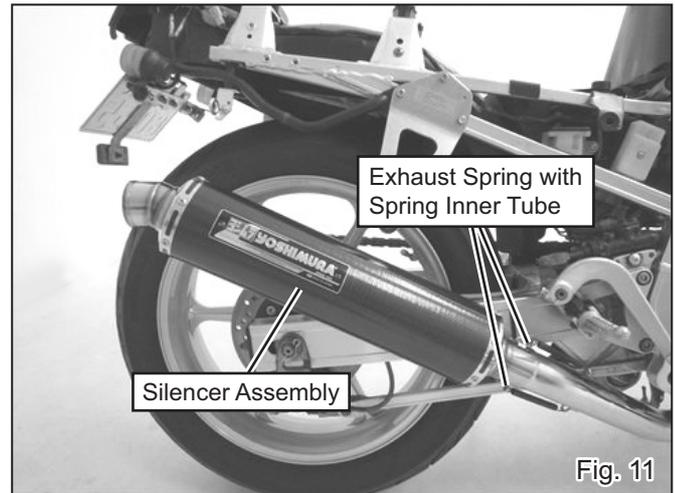

Fig. 11
- 12) Mount Silencer Assembly on Tailpipe and install 2 of Exhaust Spring with Spring Inner Tube. (See Fig.11)